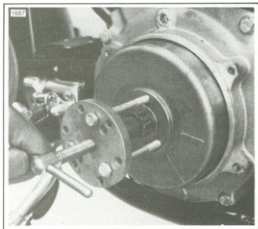

Figure 8-19. Pulling the Rotor
Output Check (Figure 8-19)
2. See Figure 8-19. Pull the alternator rotor using the ROTOR PULLER, Part No. HD-95960-52A.